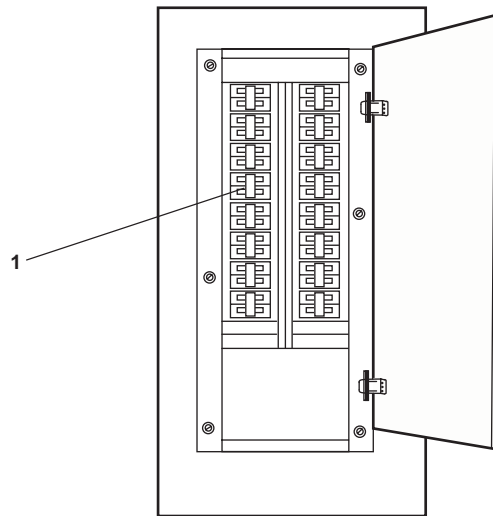

Figure 6. 120V Emergency Distribution Panel No. 1
2. Set to ON the TOWING MACHINE. circuit breaker (figure 6, item 1) in 120V emergency distribution panel No. 1.